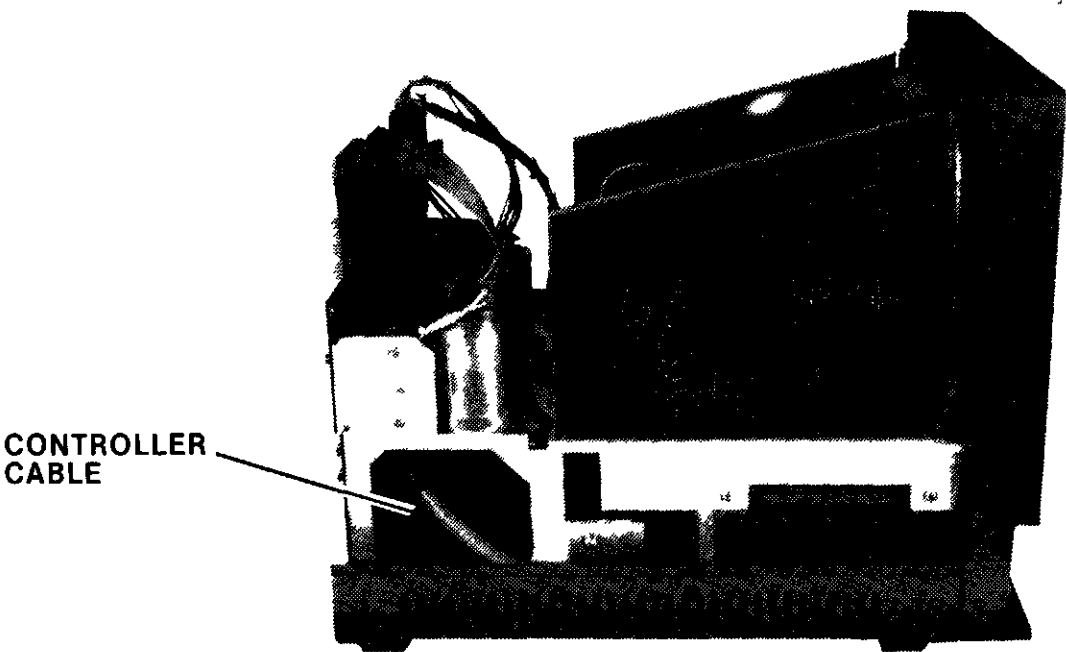

Figure 4-9. Double Density Diskette Controller Cable Routine
10. Route controller cable along side of chassis as shown in figure 4-9. Install 100-pin hooded connector on interface board as shown in figure 2-7.
8. Place second dual drive (designated Drives 2 and 3) squarely on top of first dual drive. (Refer to figure 4-9.)